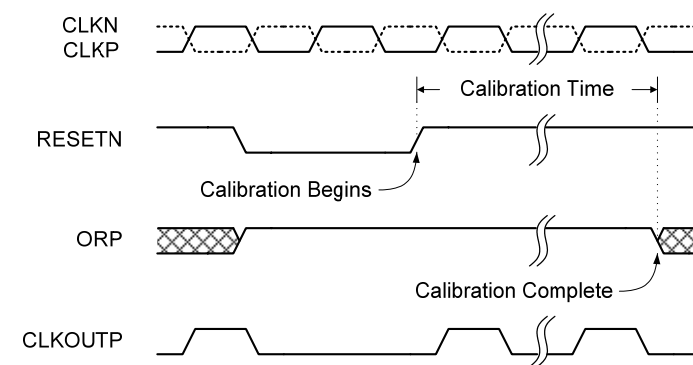

Figure 28. Calibration Timing
The calibration sequence is initiated on the rising edge of RESETN, as shown in Figure 28. The over-range output (OR) is set high once RESETN is pulled low, and remains in that state until calibration is complete. The OR output returns to normal operation at that time, so it's important that the analog input be within the converter's full-scale range in order to observe the transition. If the input is in an over-range condition the OR pin will stay high and it will not be possible to detect the end of the calibration cycle.